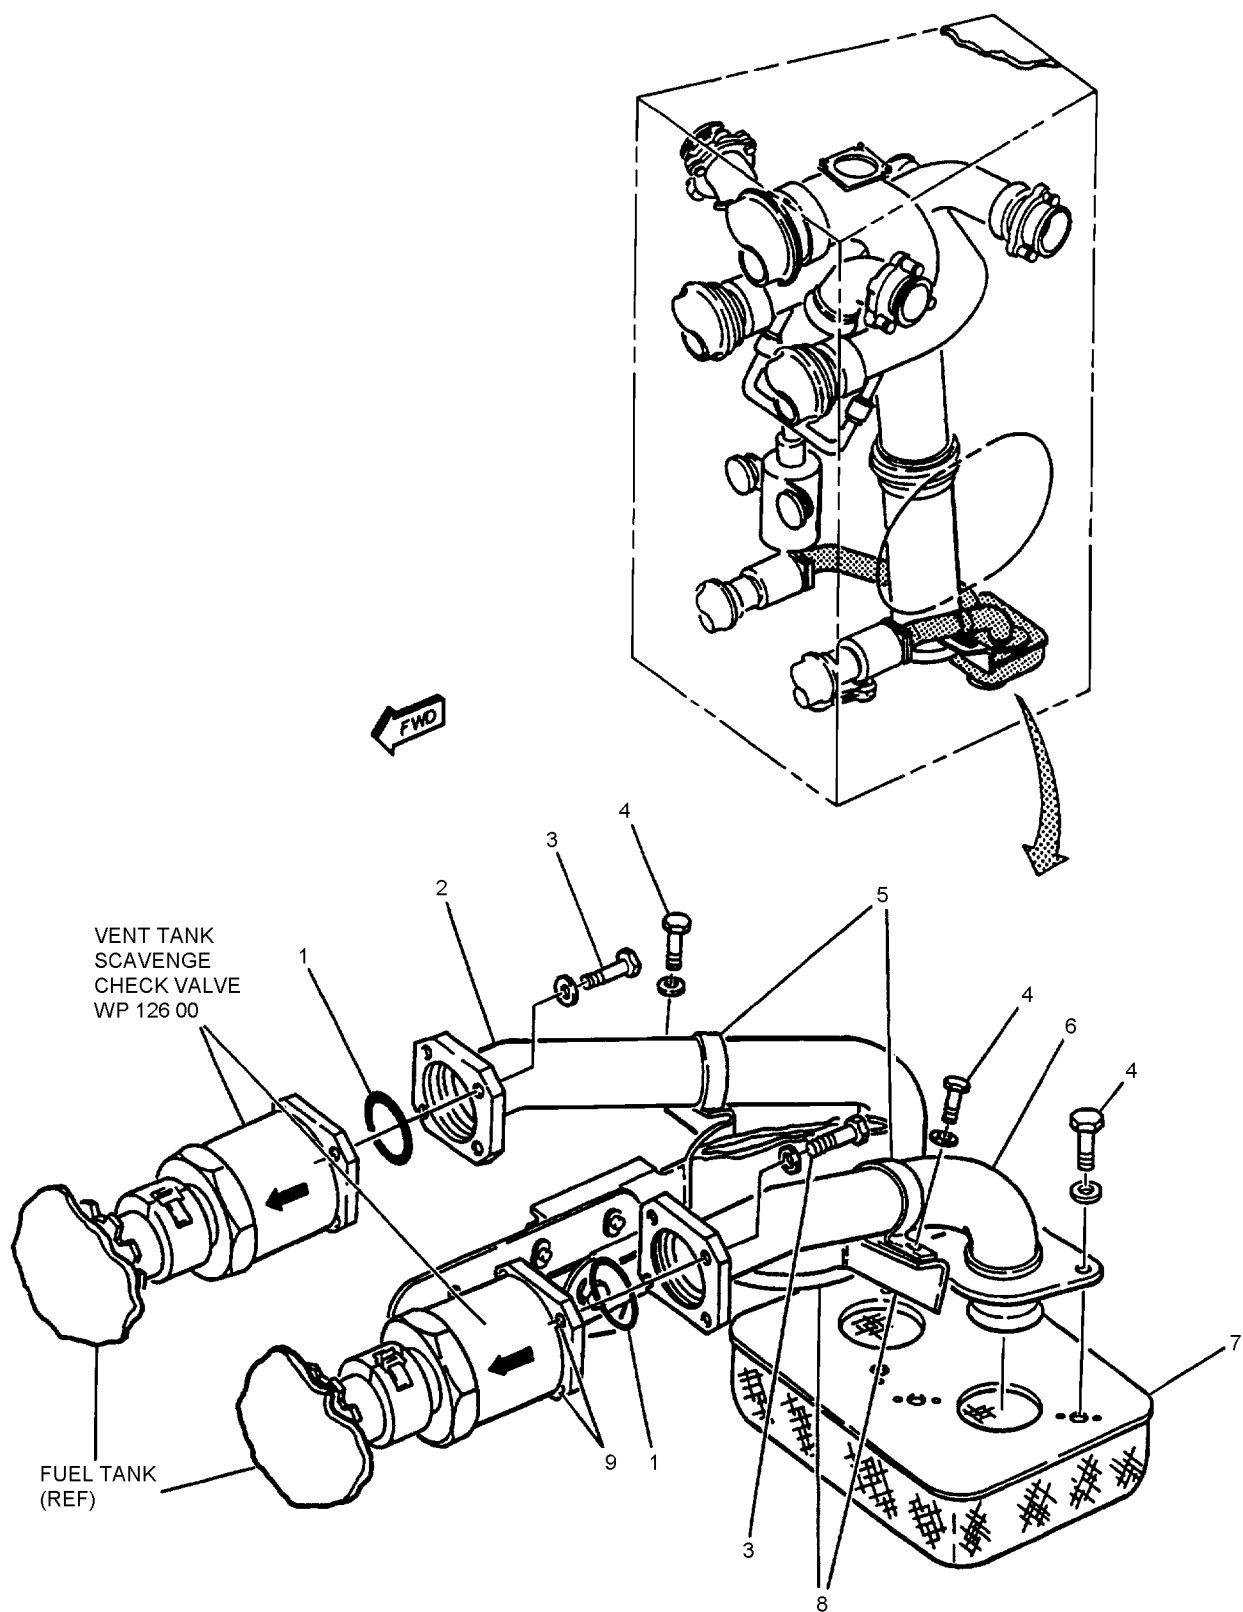

Figure 1. Scavenge Pump Inlet Screen (5FAS604) (Sheet 1)
b. Remove packings (1, figure 1), bolts (3 and 4) and washers.
- b. Lubricate new packings (1, figure 1) with petrolatum.
c. Prepare mating surfaces of strainer (7), vent tank scavenge check valves and tubes (2 and 6) for electrical bond (A1-F18AC-LMM-000).
d. Install strainer (7), tubes (2 and 6), bolts (4) and washers.
e. Install packings (1), bolts (3 and 4) and washers, and connect tubes (2 and 6) to vent tank scavenge check valves.